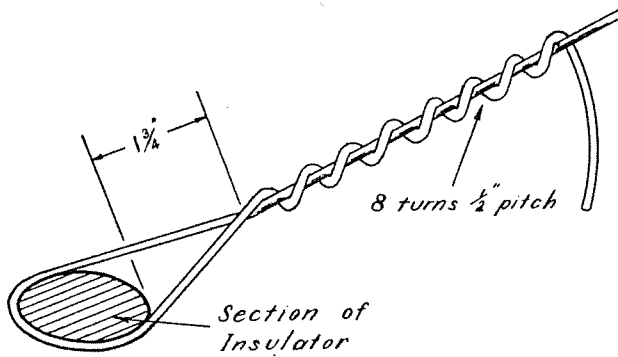

Fig. 18.
60. Figure 18 shows the standard method of terminating a taut copper wire. Terminating a line.